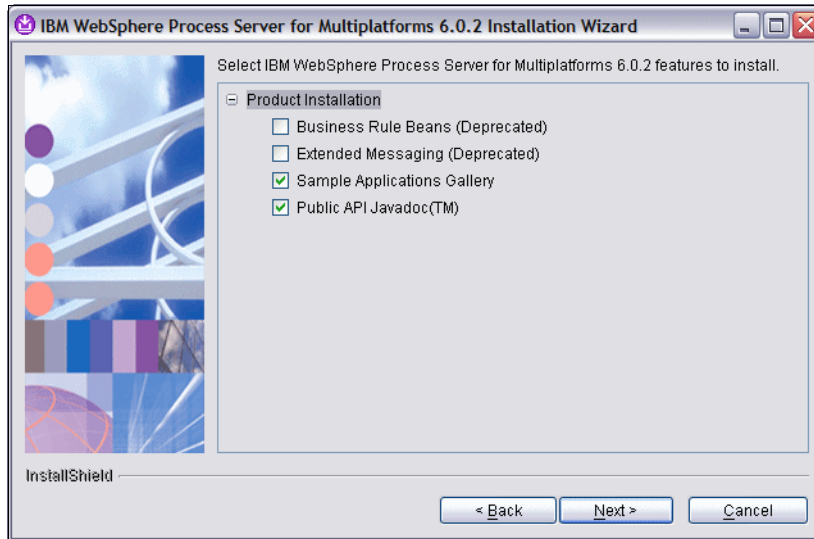

Figure A-19 WebSphere Process Server: Installation options
- ▶ Keep the default installation options (Figure A-19).